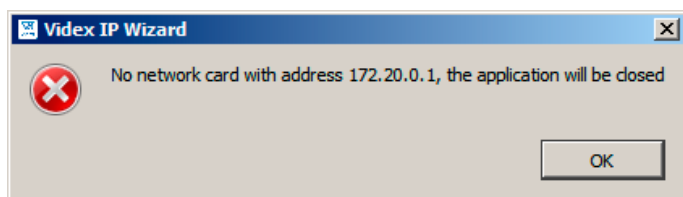

Fig. 55 No network card with address 172.20.0.1
- If you receive the message as shown in (**Fig. 55**) it means you must setup the network card first, please follow the directions on **page 30** to properly set the network card.